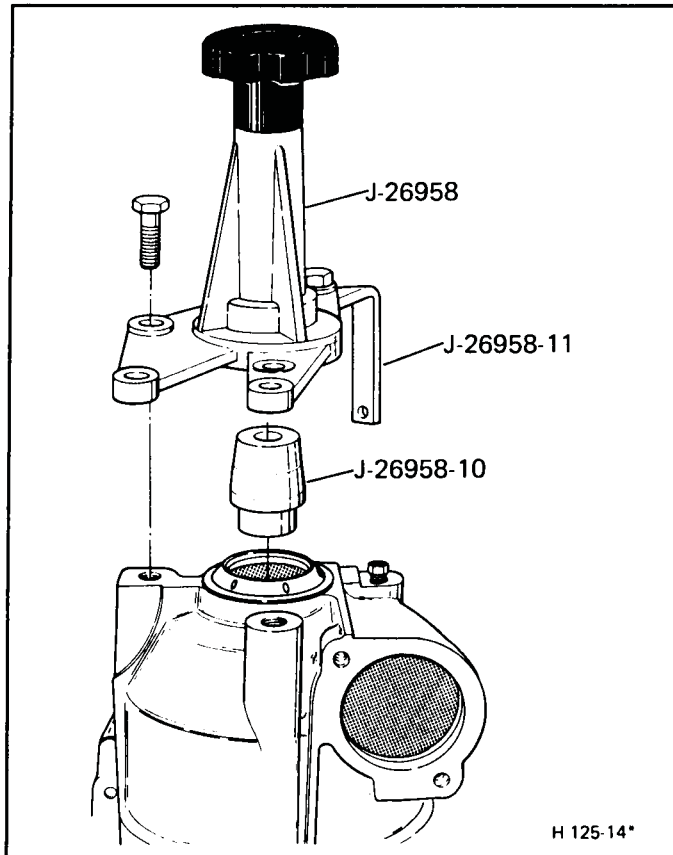

Figure 16 Output Shaft Loading Tool
**Measure** (Figures 16, 17 and 18)